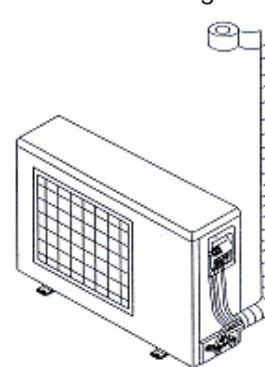

Figure 3-1-7
- Use thermal insulation tape to wrap the pipes from the bottom of the outdoor unit until the upper end of the pipe where the pipe enters the wall. When wrapping thermal insulation tape, the later circle of tape must cover half of the front circle of tape (Figure 3-1-7).